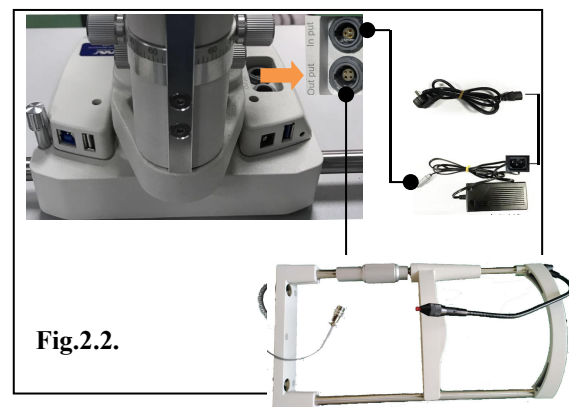

Fig.2.2.9
9. Refer to Figure 2.2.9. The 4-pin aviation plug of the chin-rest is connected to the "Output" on the base of the slit lamp microscope; the power adapter is connected to the "Input" on the base of the slit lamp microscope.